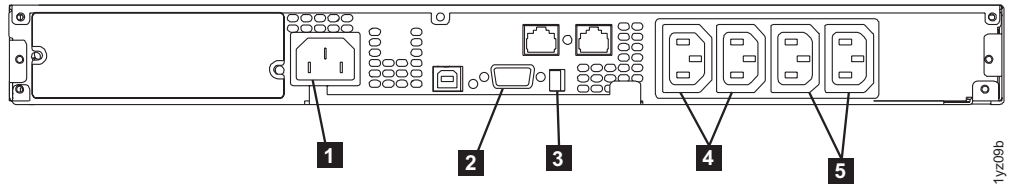

Figure 33. Installing the 2145 UPS-1U power cable
10. At the back of the 2145 UPS-1U, plug the 2145 UPS-1U main power connector into the power socket (1 in Figure 33 on page 56). The 2145 UPS-1U is in standby mode, so all indicators are off.